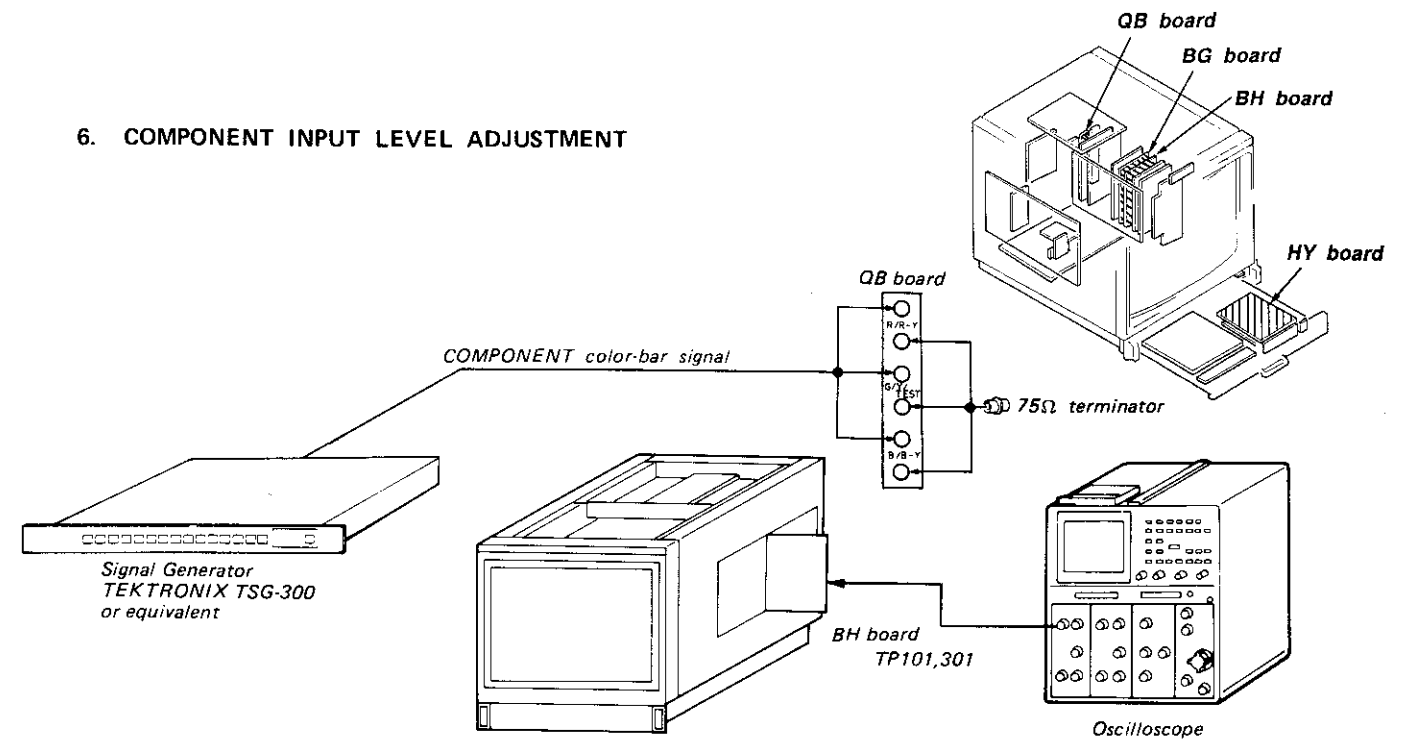

Fig. 6-1
- Complete the connections as shown in Fig. 6-1.